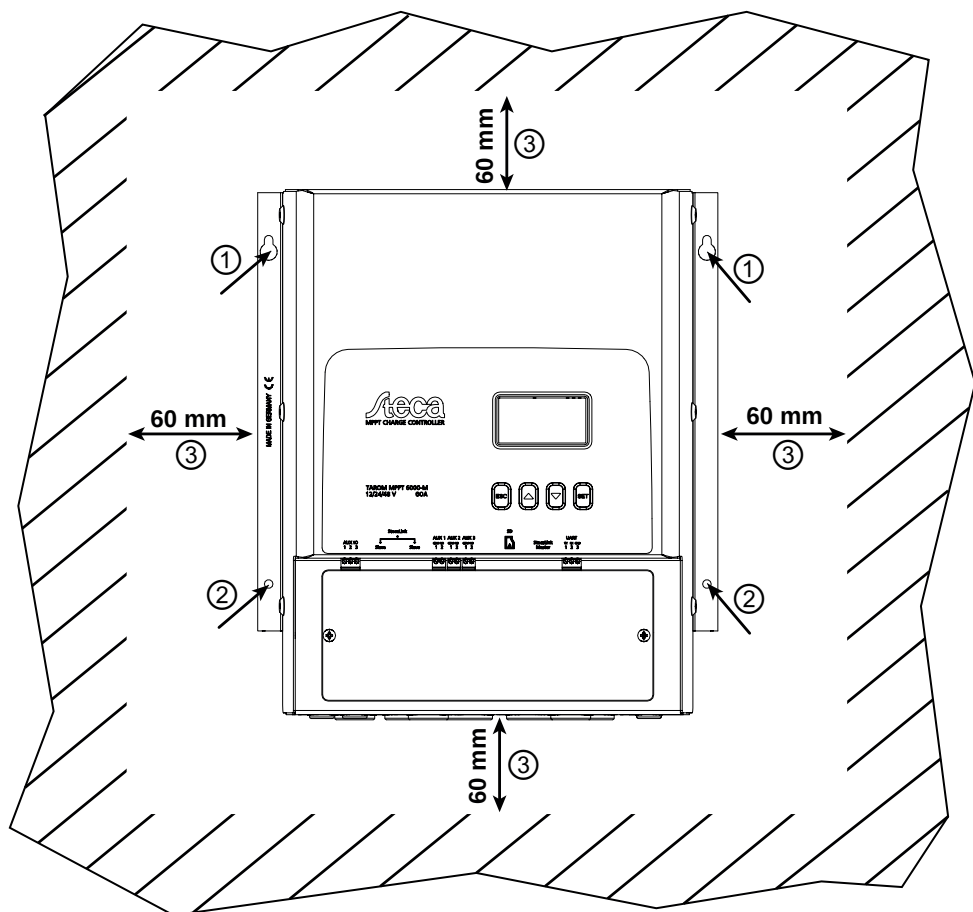

Fig. 5: Fastening openings ① / ② and free space ③
- A free space of at least 60 mm must be present on all sides of the controller (③ in Fig. 5).
- Do not drill through the fastening openings ①/② (Fig. 5).
2. ➞ Position the controller level on the mounting surface and mark the mounting holes through the fastening openings ①/② shown in Fig. 5.